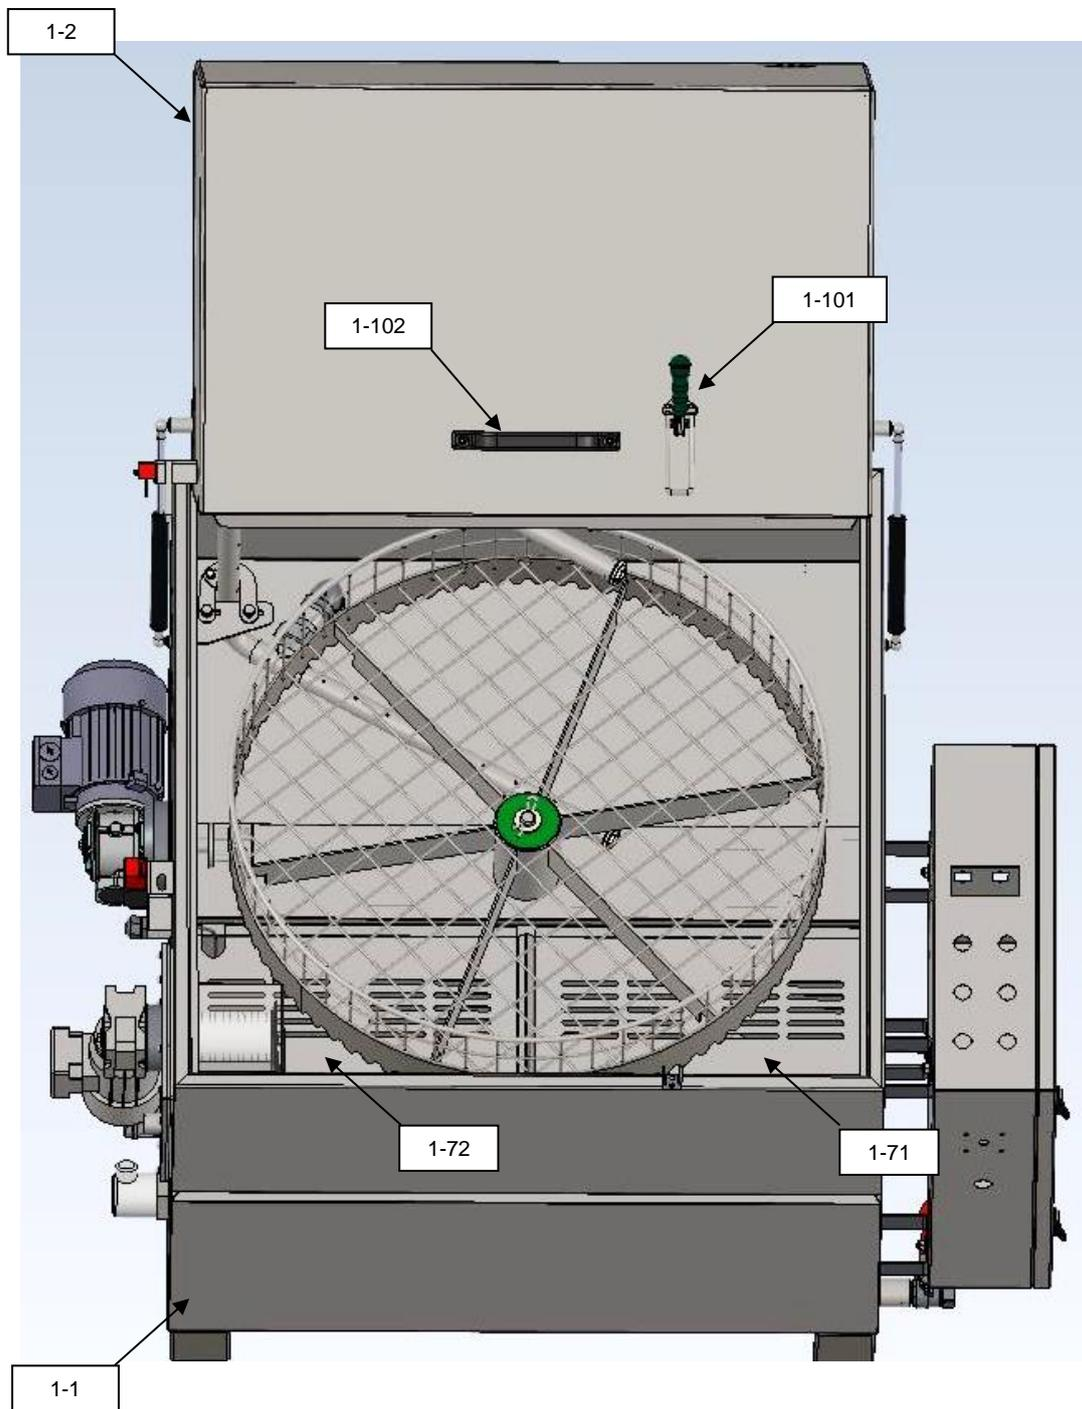
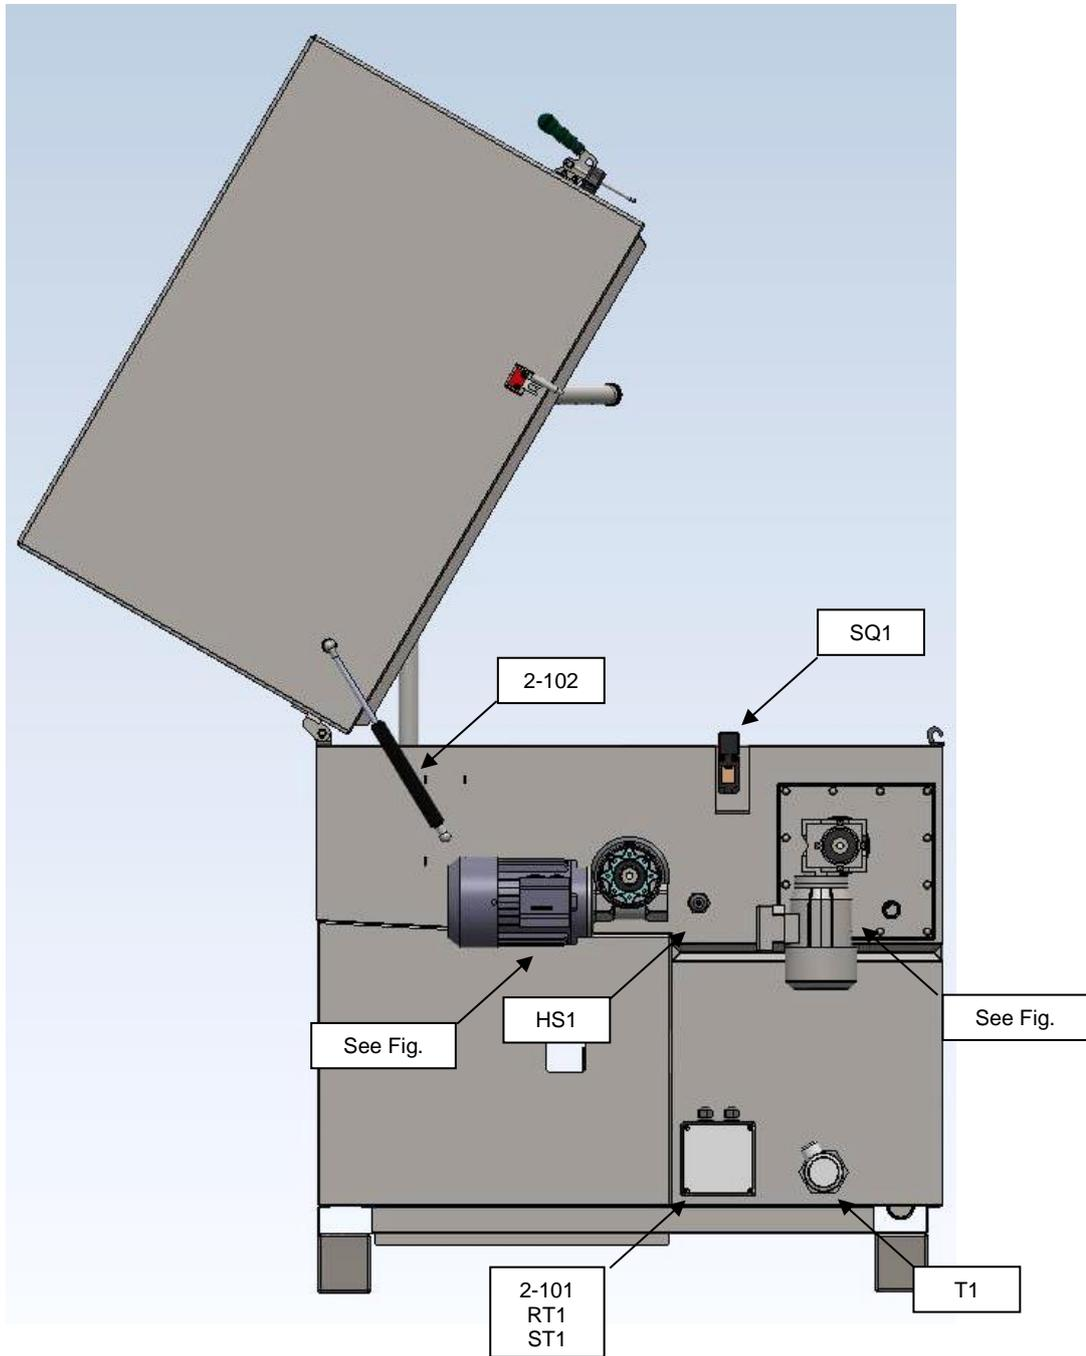

Fig. 1 Front view of the machine
Fig. 2 Left view of the machine
The machine housing is divided into two standard parts; see Figure 1. They consist of a movable lid (pos. 1-2) and a fixed working group (pos. 1-1). Both parts are made of stainless steel (ČSN 17 240).
The working group is divided by removable grids, refer to Figure 1 (pos. 1-71, 1-72). Above the grids there is a working space in which the technological processes of washing of parts take place. Under the grids there is a wash liquid tank with a filter, refer to Section 2.1.2.
The operator controls the opening and closing of the lid manually. The lid is secured against spontaneous opening by means of a lock, so-called front closure lever; see in Fig. 1 (pos. 101). A handle is screwed to the lid to facilitate its handling (pos. 1-102). Damping gas struts are installed between the lid and the working group to alleviate the weight of the lid, see in Fig. 2, 4 (pos. 2-102). The strut hinges are anchored to the pins welded to the wall of the working group and of the lid.
- The electrical switchboard, see in Fig. 1 and 4 (pos. 4-1), consists of a stainless steel cabinet with an openable door secured by two locks (pos. 4-103) protecting the machine operator from accidental contact with live electrical circuits. A seal (pos. 4-61) is inserted between the door and the cabinet to protect the internal parts of the cabinet against water ingress. There is a main switch on its front side.
- Next to the heating element, an electrical box is attached to the wall of the working group, see Fig. 2 (pos. 2-101), and in it a pipe with a liquid temperature sensor (pos. RT1) passes through the wall of the working group, which maintains the temperature of the wash liquid at the set value. Together with the sensor, a thermal fuse probe (pos. ST1) is located in the sump. It is part of the safety circuits of the machine. If the regulation fails, the liquid temperature starts to rise dangerously. When 95 °C is exceeded, the thermal fuse is breached, interrupting the power supply to the heating element, and further heating of the liquid is stopped. When the temperature drops, the thermal fuse remains open and must be manually reset once the fault is corrected.
- The minimum level sensor, see in Fig. 2 (pos. HS1), is part of the safety circuits of the machine. When the liquid level drops below the safe limit, the so-called level relay interrupts the washing process or prevents its starting.
- A safety switch of the lid, see in Fig. 2 (pos. SQ1) is installed between the lid and the working group in order to enhance safety of operating personnel during the technological processes of washing. When it switches off, the safety circuit terminates the cycle in process, and when the lid is open, the switch blocks accidental starting of the machine.